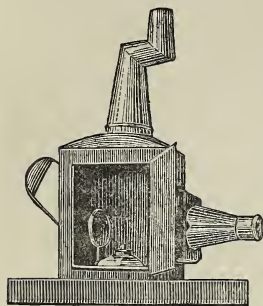

Fig. 1.
The verse is then repeated to the second part of the tune, the player jumping to each figure *before* it is mentioned, and giving a second jump on it, before going to the next. The last line finishes off with a wild repetition of the figure, the player stepping from one figure to the next as fast as he can, finishing on No. 7 to the last word. The player must place both feet on Fig. 7 to the words 'and they,' then the right on Fig. 1, and so on, to the last one. The great difficulty in the last line is to get the left foot from Fig. 4 to Fig. 6 in time. This is done by passing the right foot *behind* the left, when moving it from Fig. 3 to Fig. 5, which will enable the player to finish without tying his legs in a knot. The words and the numbers of the figures for the player to jump to are here given (commencing on No. 7 and facing Fig. 6)—
1. There was a crooked (jump to Fig. 1 to the word) *man*,
2. There (jump to Fig. 1) was a crooked (2nd jump on Fig. 1) *man*,
(Step to Fig. 7, left foot) And they (right to Fig. 1 to word) all (left to Fig. 2) lived (right to Fig. 3 to) together (left to Fig. 4 to) in a (right behind left to Fig. 5) little (left to Fig. 6) crooked (both feet to Fig. 7) house.
First, then, let us deal with the lanterns illuminated by a lamp burning colza or sperm oil. Of these lanterns there are two subdivisions, those whose condensing lenses are of a size suitable for exhibiting the standard slides (slides three and a quarter inches in diameter), called phantasmagoria lanterns, and lanterns of a smaller size, which may be described as toys, and for which but a very limited variety of slides can be obtained. We give an illustration (Fig. 1) of one of these small lanterns, from which it will be seen that the lamp is of very simple construction, and provided with a silvered reflector behind it. Magic-lanterns, the condensing lenses of which are from one and a half inch to two and a half inches in diameter, are calculated to produce discs of light from four feet to six feet in diameter. Such discs are usually obtained when the distance of the lantern from the screen is about one-third more than the desired diameter of the disc. Lanterns such as these are described, according to their size, by